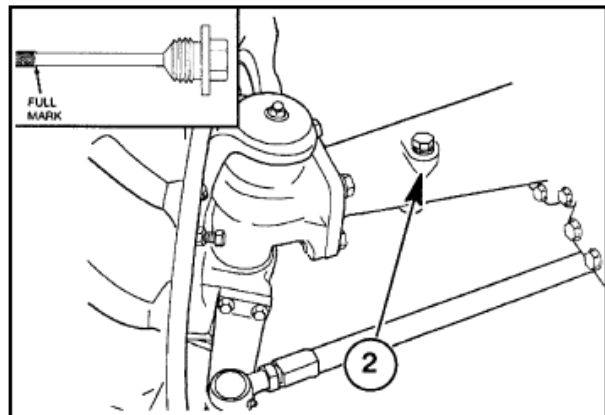
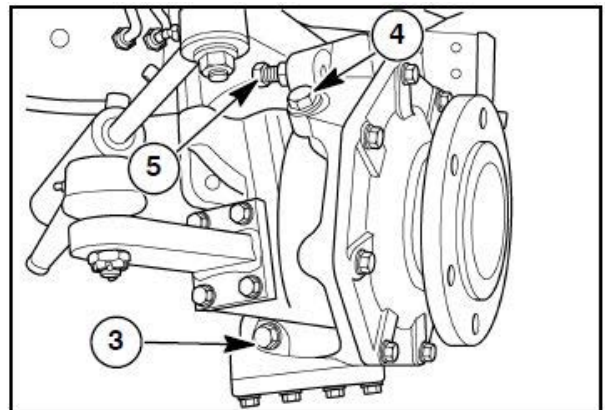

Figure 3-54
Figure 3-55
2. Remove the dipstick/filler plug (2) in Figure 3-54, on the left-hand side of the axle housing.
3. Remove the drain plug (3) in Figure 3-55, from each final reduction gear case. After the oil has drained, reinstall each drain plug and discard the used oil. Remove the filler plug (4) in Figure 3-54, from each final reduction gear case and fill with SAE 80 hydraulic oil so that the oil level is at the bottom of the fill port opening. Reinstall each filler plug.
NOTE: To ensure correct steering operation, the stop bolt (5) in Figure 3-55, should protrude a minimum of 32mm from the casing (standard FWD axle).